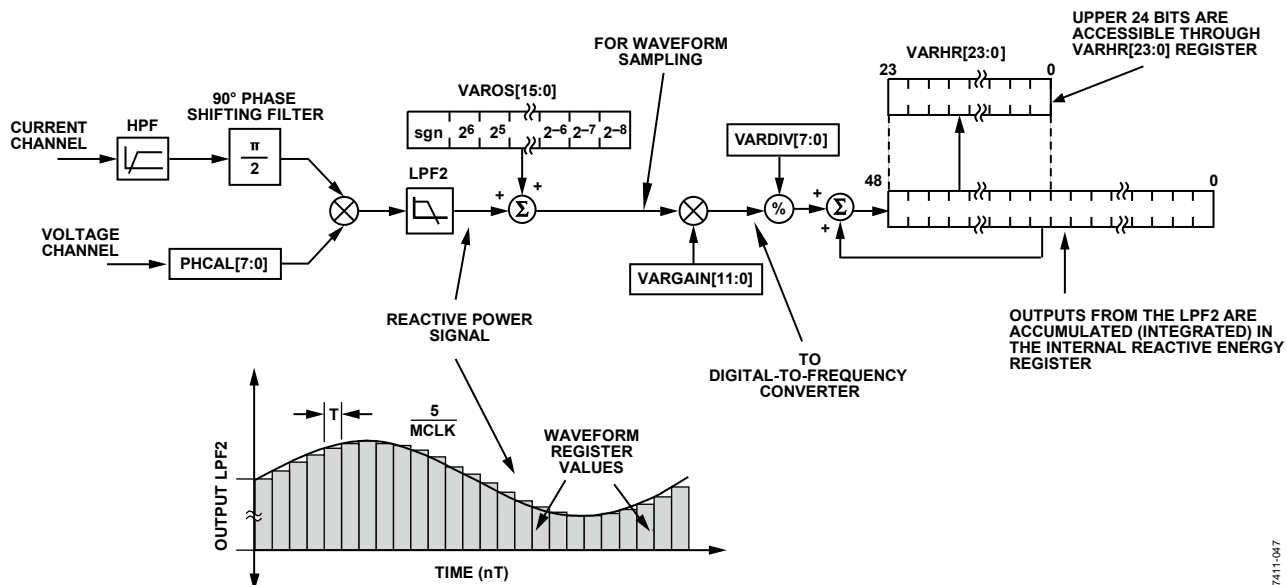

Figure 72. Reactive Energy Calculation
The instantaneous reactive power signal,  $q(t)$ , is generated by multiplying the voltage and current channels. In this case, the phase of the current channel is shifted by 90°. The dc component of the instantaneous reactive power signal is then extracted by a low-pass filter to obtain the reactive power information (see Figure 72).
Figure 72 shows the signal processing chain for the ADE5169/ADE5569 reactive power calculation. As explained in the Reactive Power Calculation (ADE5169/ADE5569) section, the reactive power is calculated by applying a low-pass filter to the instantaneous reactive power signal. Note that, when reading the waveform samples from the output of LPF2, the gain of the reactive energy can be adjusted by using the multiplier and by writing a twos complement, 12-bit word to the var gain register (VARGAIN, Address 0x1E[11:0]). Equation 23 shows how the gain adjustment is related to the contents of the var gain register.
The ADE5169/ADE5569 also incorporate a reactive power offset register (VAROS, Address 0x21). This is a signed, twos complement, 16-bit register that can be used to remove offsets in the reactive power calculation (see Figure 72). An offset can exist in the reactive power calculation due to crosstalk between channels on the PCB or in the IC itself. The offset calibration allows the contents of the reactive power register to be maintained at 0 when no power is being consumed.
The discrete time sample period (T) for the accumulation register in the ADE5169/ADE5569 is 1.22  $\mu$ s (5/MCLK). As well as calculating the energy, this integration removes any sinusoidal components that may be in the active power signal. Figure 72 shows this discrete time integration or accumulation. The reactive power signal in the waveform register is continuously added to the internal reactive energy register.
As shown in Figure 72, the reactive power signal is accumulated in an internal 49-bit, signed register. The reactive power signal can be read from the waveform register by setting the WAVMODE register (Address 0x0D) and setting the WFSM bit (Bit 5) in the Interrupt Enable 3 SFR (MIRQENH, Address 0xDB). Like the current and voltage channel waveform sampling modes, the waveform data is available at sample rates of 25.6 kSPS, 12.8 kSPS, 6.4 kSPS, and 3.2 kSPS.